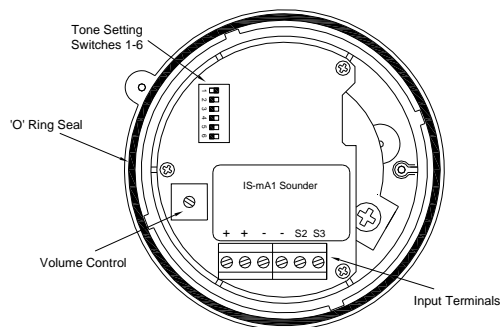

Fig 2 Location of field terminals and controls.
**Tone Selection** – To select the required first stage tone set the tone switches 1 to 6 (see Fig 2) to the tone setting shown in the table below. The table also shows which 2nd and 3rd stage tones are available for use with the selected first stage tone if more than one tone output stage is required.
- Fit the required number of 20mm cable glands or conduit entries into the base and connect the field wiring to the appropriate sounder terminals as shown in section 6 and fig 2 of this manual. The power supply terminals + and - are duplicated so that sounders may be connected in parallel, or an end of line monitoring resistor may be fitted.
- Select the required output tone by positioning the six switches as shown in Table 1 and Fig 2.
- Check that the 'O' ring seal is correctly located on the sounder section (see Fig. 2) and insert the sounder section into the base. Push it fully home and turn it clockwise to align the mouldings before tightening the security screw.
The output level of the IS-mA1 sounder can be set by adjusting the volume control potentiometer (see Fig 2).